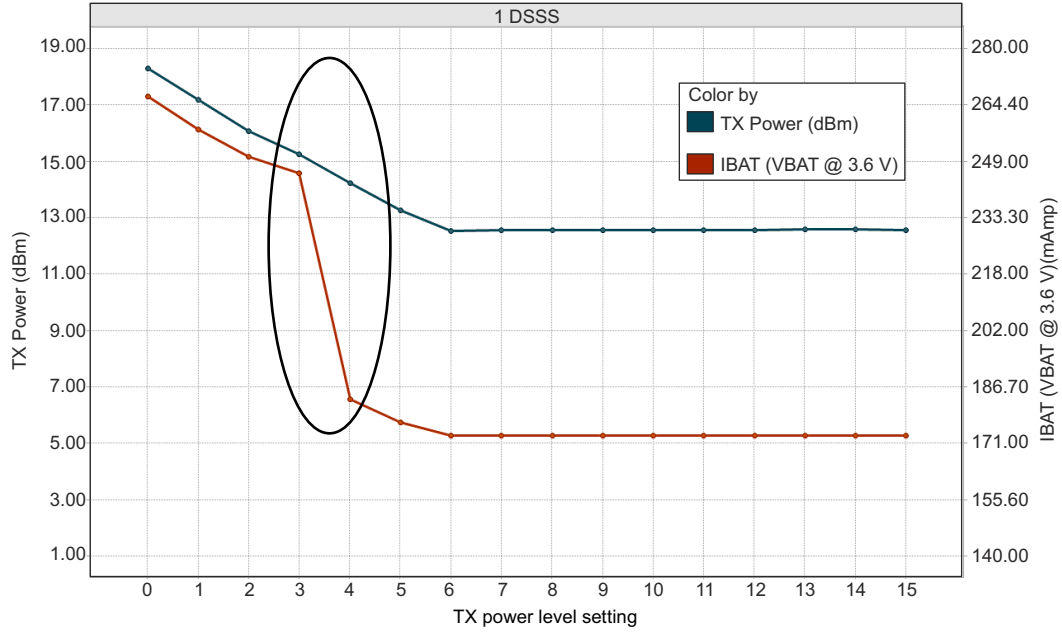
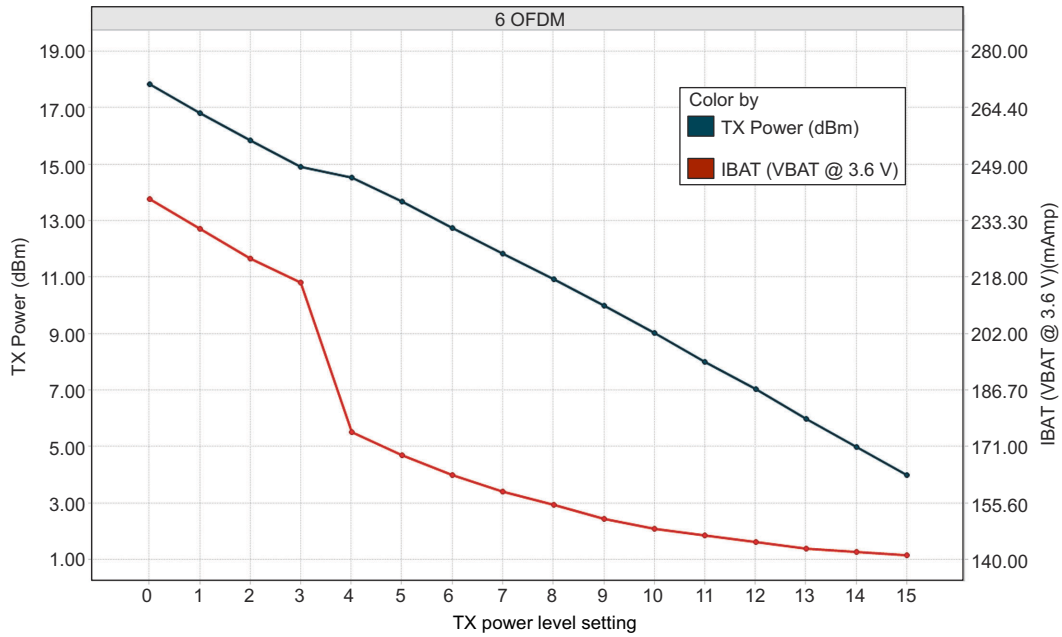
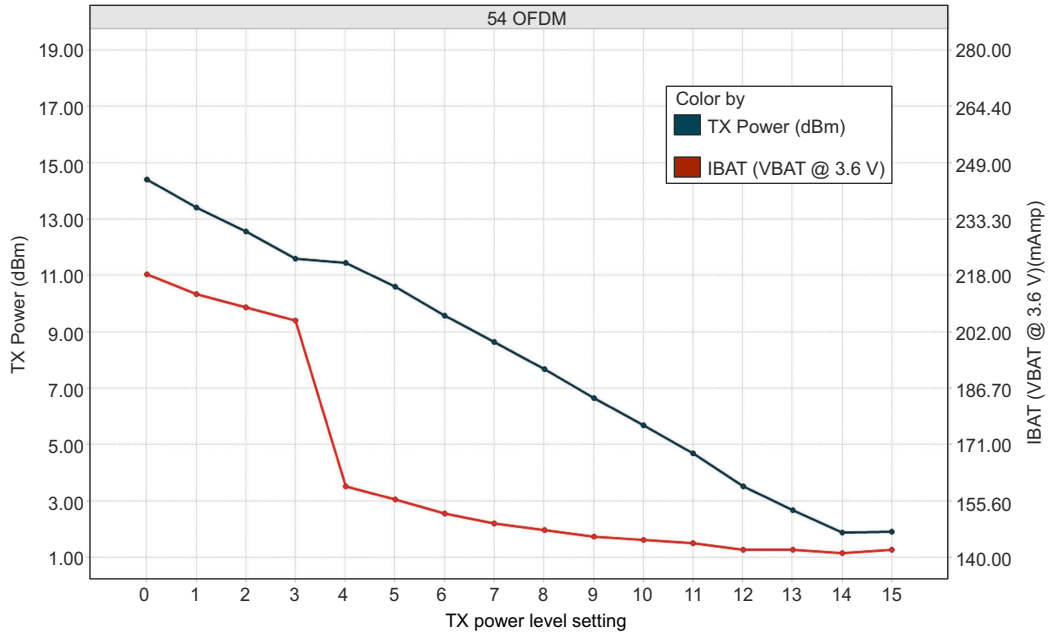

Figure 7-1. TX Power and IBAT vs TX Power Level Settings (1 DSSS)
Figure 7-2. TX Power and IBAT vs TX Power Level Settings (6 OFDM)
Figure 7-3. TX Power and IBAT vs TX Power Level Settings (54 OFDM)
- (1) TX power level = 0 implies maximum power (see Figure 7-1, Figure 7-2, and Figure 7-3). TX power level = 4 implies output power backed off approximately 4dB.
- (2) The CC3130 system is a constant power-source system. The active current numbers scale based on the V_{BAT} voltage supplied.
- (3) DTIM = 1.
- (4) The complete calibration can take up to 17mJ of energy from the battery over a time of 24ms. In default mode, calibration is performed sparingly and typically occurs when re-enabling the NWP and when the temperature has changed by more than 20°C . There are two additional calibration modes that may be used to reduce or completely eliminate the calibration event. For further details, see CC3x20, CC3x35 SimpleLink™ Wi-Fi® and Internet of Things Network Processor Programmer's Guide.
- (5) The RX current is measured with a 1Mbps throughput rate.
Figure 7-1, Figure 7-2, and Figure 7-3 show TX power and IBAT versus TX power level settings for the CC3130 device at modulations of 1 DSSS, 6 OFDM, and 54 OFDM, respectively.
In Figure 7-1, the area enclosed in the circle represents a significant reduction in current during the transition from TX power level 3 to level 4. In the case of lower range requirements (14dBm output power), TI recommends using TX power level 4 to reduce the current.